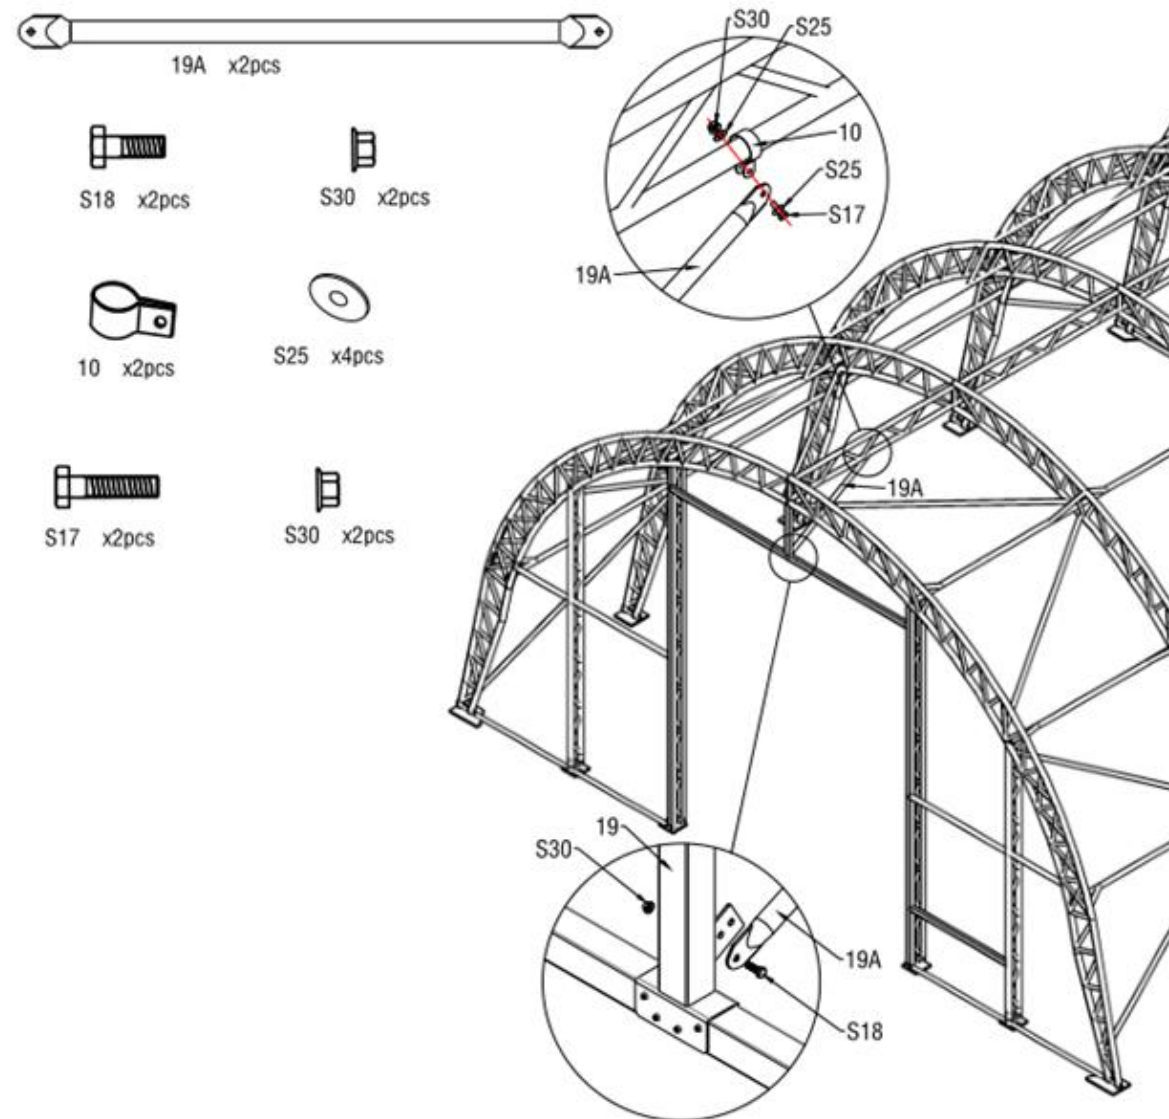

Figure 15
2. Fix clips (No. 10) on Double Trussed Purlins (No. 6) and install the Diagonal Support Tube For door beam (No. 19A) on clips as figure 15 shows. Please connect the Diagonal Support Tube For door beam (No. 19A) between door frame and Double Trussed Purlins (No. 6) by using Screw M10x30 (No. S18) and Screw M10x50 (No. S17) with plain washer M10 (No. 25).